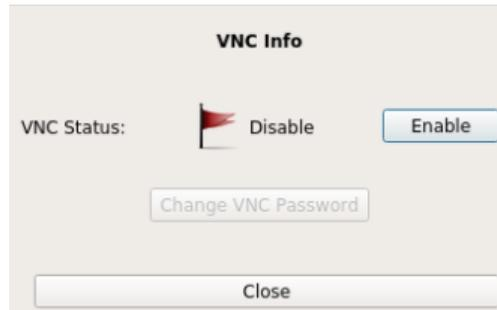

Figure 50: Remote VNC Login
2. Click **Remote Login (VNC)**: The dialog box shown in Figure 50 appears.